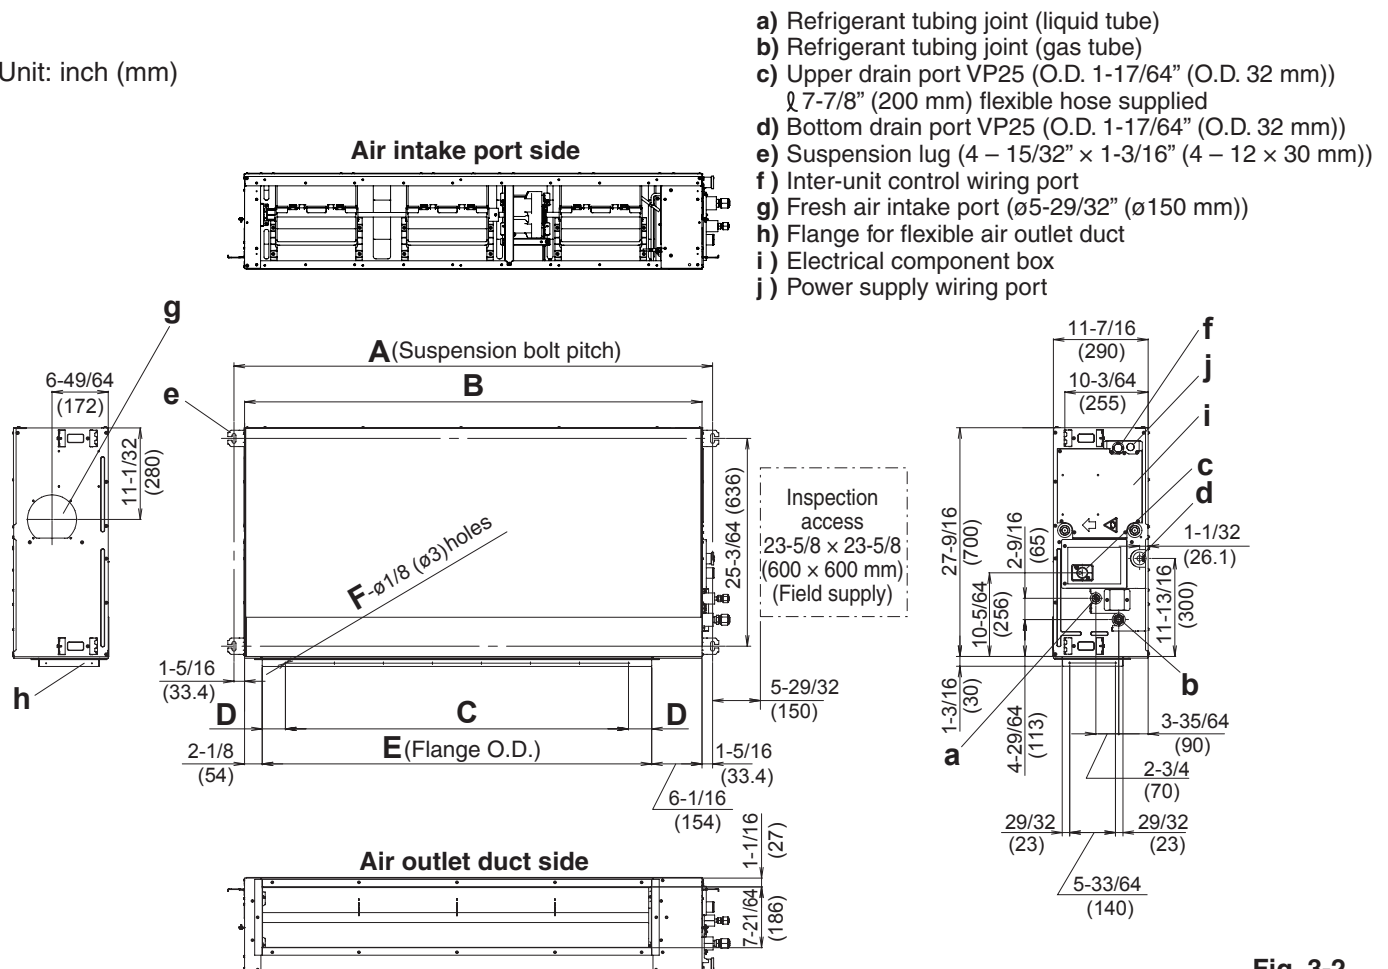

Fig. 3-2
- The detailed dimensions of the indoor unit is shown in Fig. 3-2 and Table 3-2.